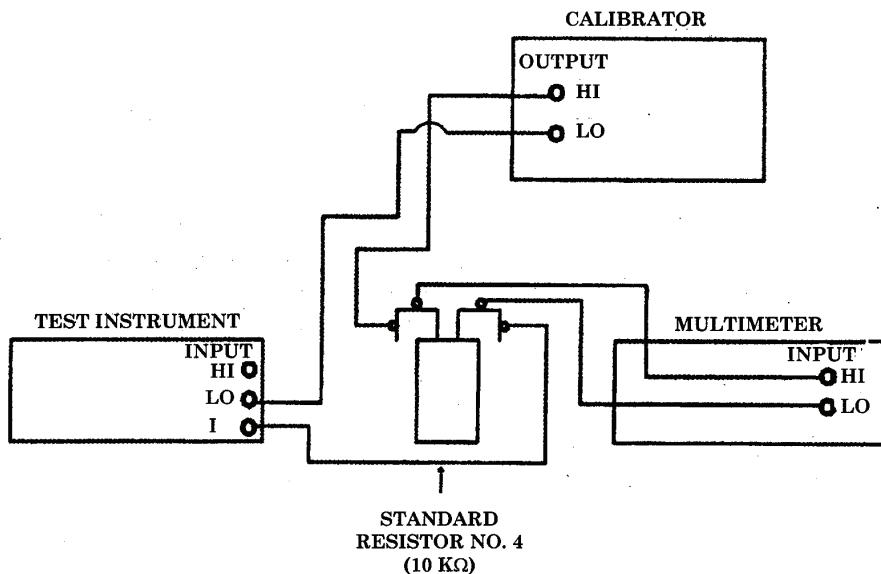

Figure 3. Dc current – equipment setup.
- (7) Press TI keys as listed in (a) through (c) below:
(8) Perform paragraphs 13 through 17 below on multimeter (not TI) to establish manufacturer's 24 hour accuracy.
- (9) Connect equipment as shown in figure 3.
- (10) Set multimeter to measure dc voltage on 1 V range.
- (11) Press TI **FUNCTION/RANGE Range** \uparrow or \downarrow key to 100 μ A range.
- (12) Set calibrator for a 100 μ A dc output, then using output adjustment controls; adjust calibrator output for a 100.00000 (± 20 digits) TI indication.
- (13) Divide multimeter indication by standard resistor test report value. Calculated value will be between 99.99664 and 100.00336 μ A.
- (14) Repeat technique of (9) through (13) above using standard resistors and settings listed in table 6. Calculated values will be within limits specified.